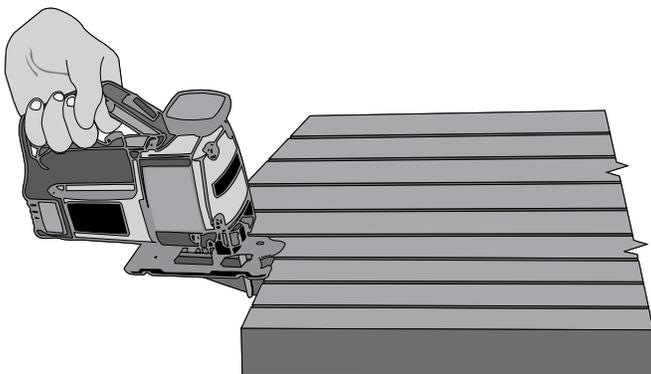

Figure 2a
3. Figures 2a & 2b: Coping to fit the opening is easily accomplished with a hand saw or power jig saw.